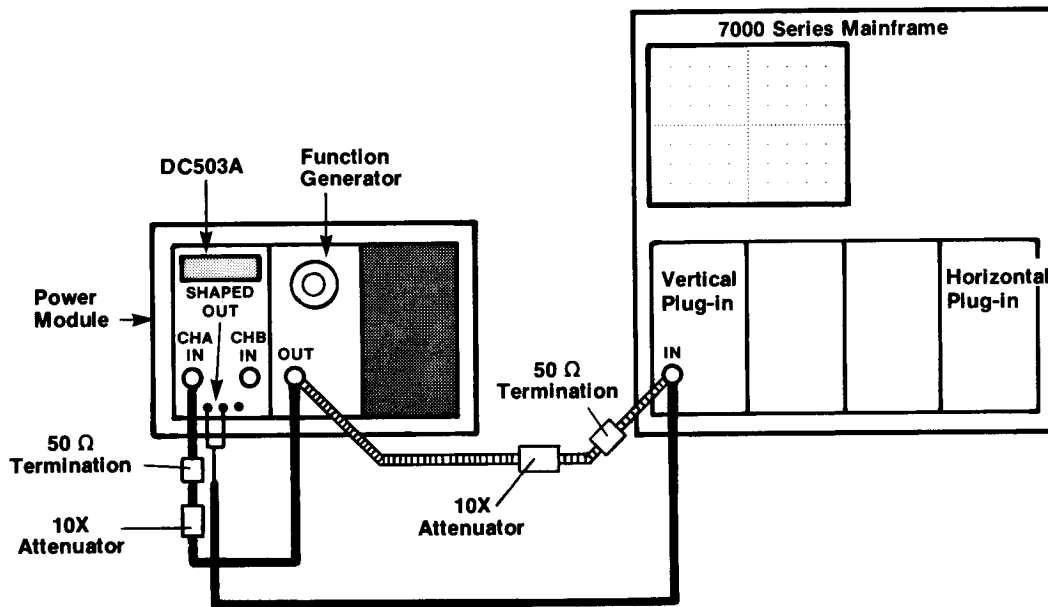

Fig. 4-2. Check set-up for low frequency ac and dc sensitivity.
**7. Check the CH A Input Frequency Range, X1 ac coupled (10 Hz). Refer to Fig. 4-2 check set-up and the preliminary control settings with the following addition:**
### 8. Check the CH B Input Frequency Range, X1 ac coupled (10 Hz). Refer to Fig. 4-2 check set-up.